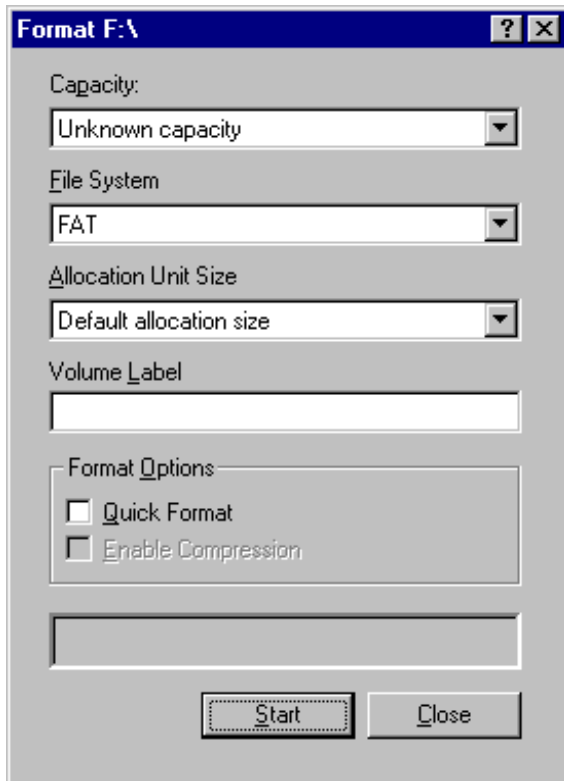

Figure 3.6 Confirming Disk Configuration Update
6. When the disk update confirmation message appears (see Figure 3.6), select **OK**. On the Disk Administrator main panel, verify that the newly created partition changes from **Unformatted** to **Unknown**.